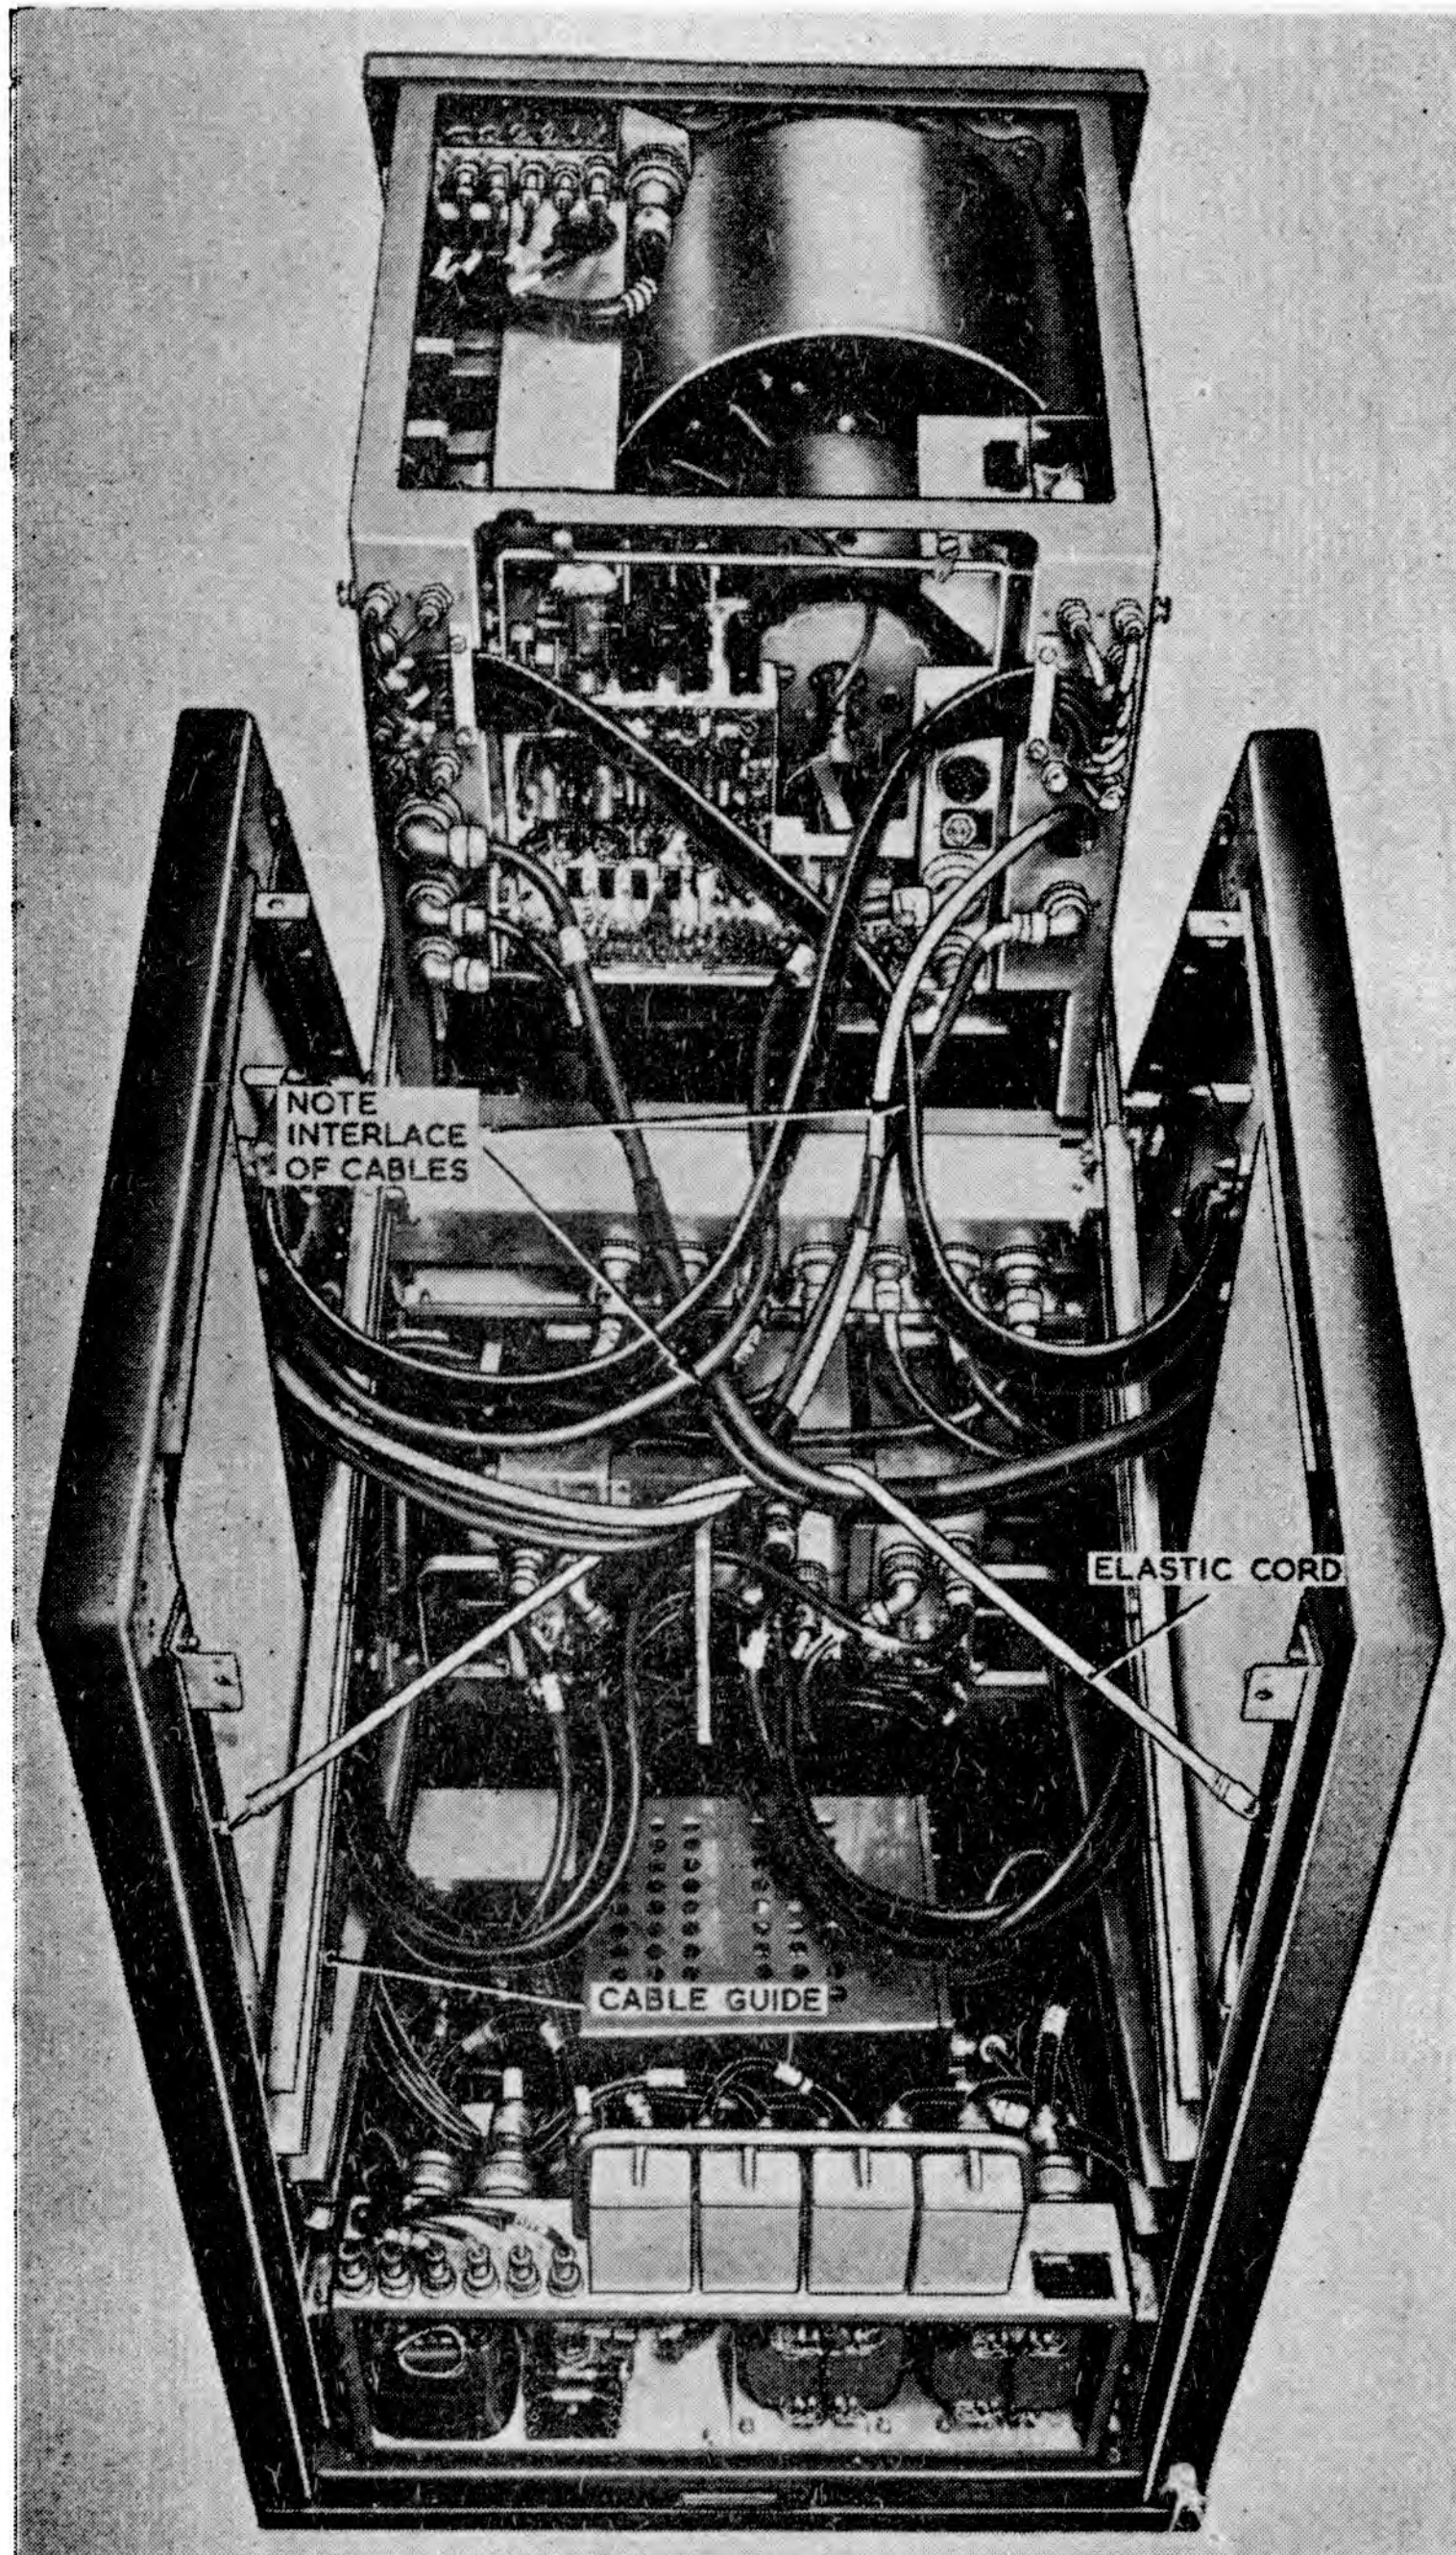

Fig. 8. Console Type 64—both chassis fully withdrawn
49. Fig. 8 shows a rear view of a console Type 64, with top and rear panels, and part of the frame, removed so as to give an unobscured view. The illustration shows both the upper and the lower